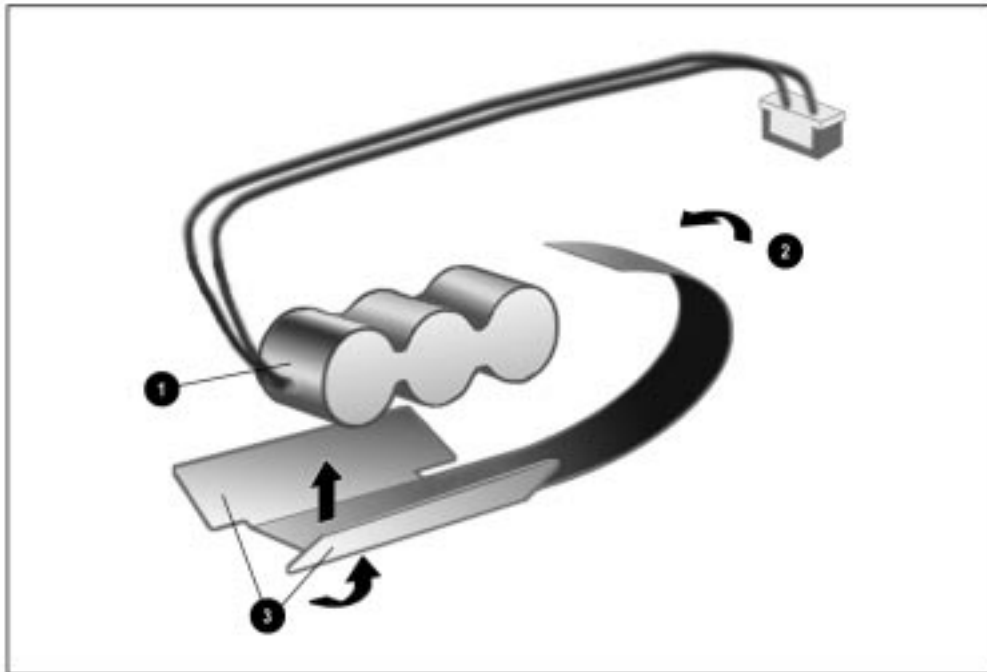

Figure 5-33. Attaching the Insulator to the Auxiliary Battery
2. With the auxiliary battery cable positioned to the left, attach the insulator to the auxiliary battery ❶. Align the left edge of the insulator with the spot on the auxiliary battery where the cable is attached (Figure 5-33).
3. Fold the right side of the insulator over the auxiliary battery ❷. Make sure the insulator adheres to and covers the top surface of the battery.
4. Fold up the two side flaps on the insulator ❸. Make sure the insulator adheres to the sides of the auxiliary battery.